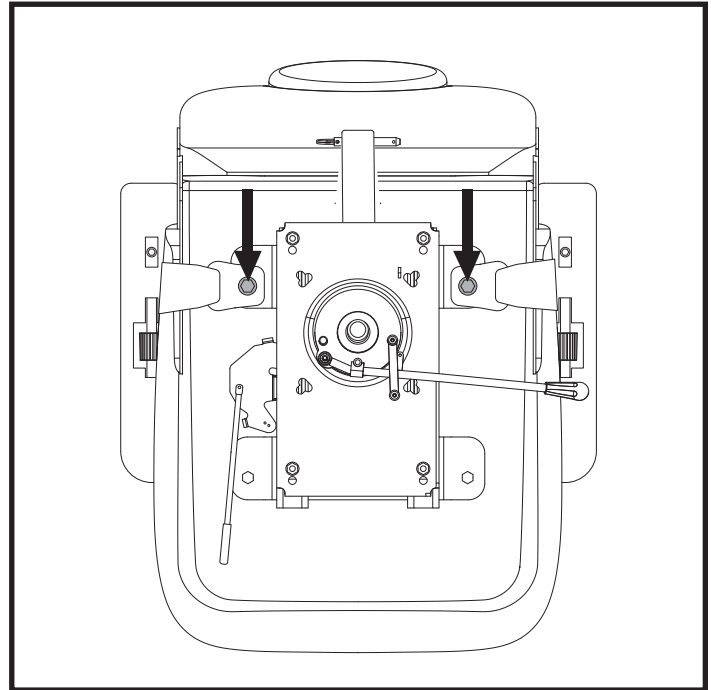

Figure 22. Positioning Belt Bolts
2. Place the seat upside down so that you can see the bottom of the seat base. See figure 22.